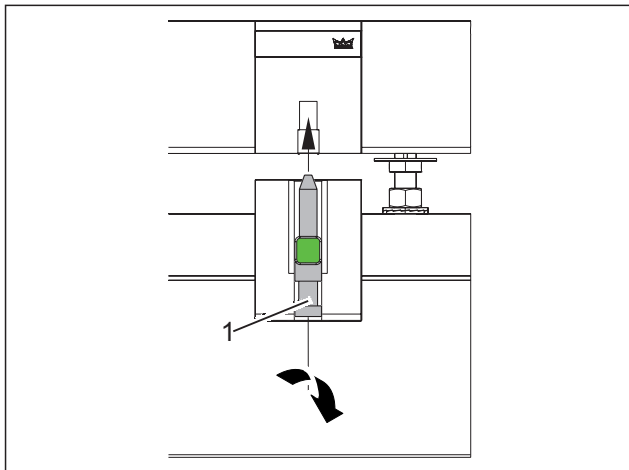

Fig. 9 Locking bolt
1. Use a crank handle (Fig. 9/1) to screw in the locking bolt by approx. $\frac{3}{4}$ of a turn upwards.